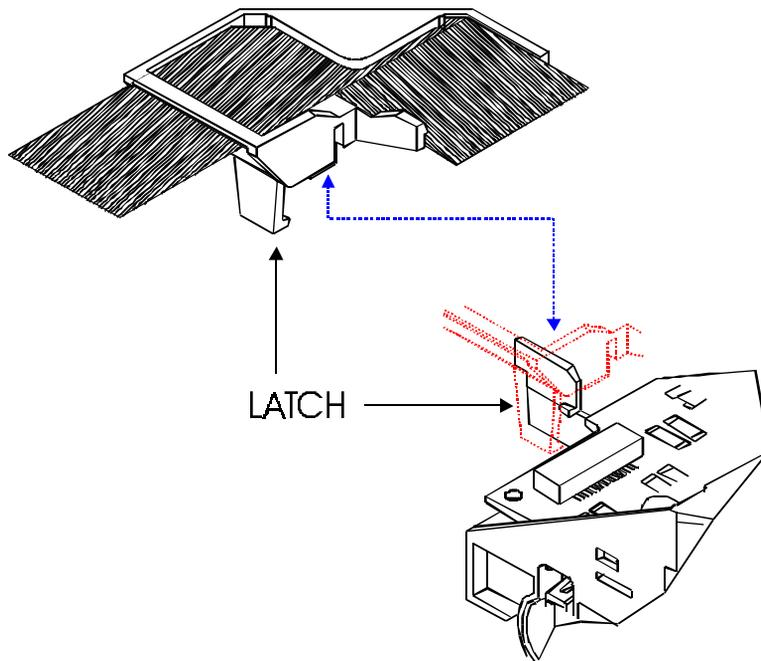

Figure 5-12. Strain Relief Removal/Installation.
5. Remove the Trailing Cable and Strain Relief from the Carriage Assembly by releasing the latch on the left lower side of the Strain Relief and lifting it off of the Carriage Assembly. See Figure 5-12.